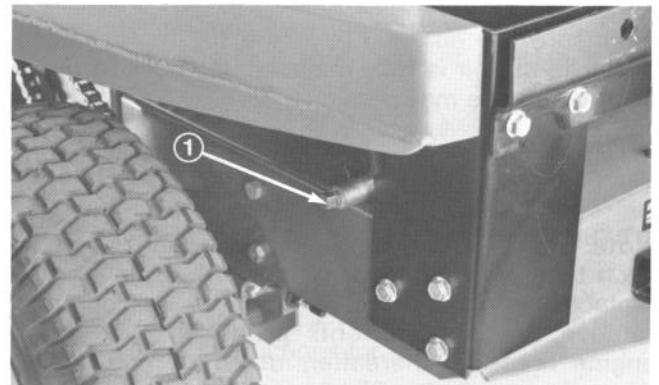

Figure 7
1. Place rider on a level surface to assure an accurate oil level reading. Ensure the oil drain plug is securely tightened (Fig. 7).